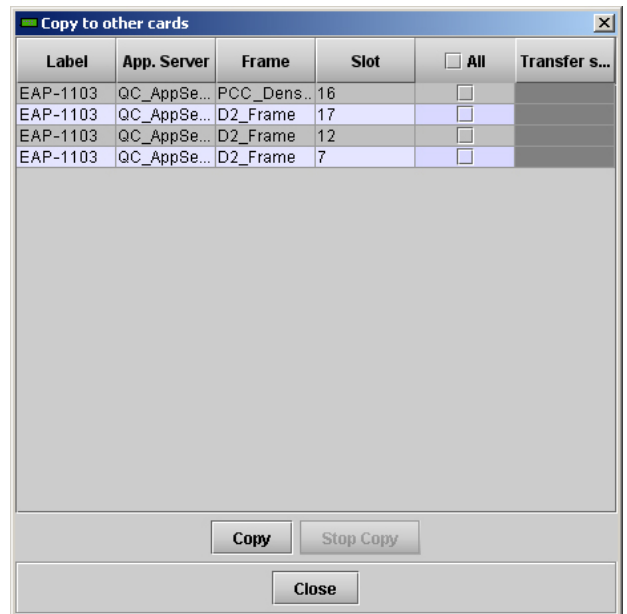

Figure 3.25 Copy to other cards
- Some alarms may be text-only and the alarm status is shown in the name and not by a status icon (e.g. *Input Format* in Fig. 3.25)